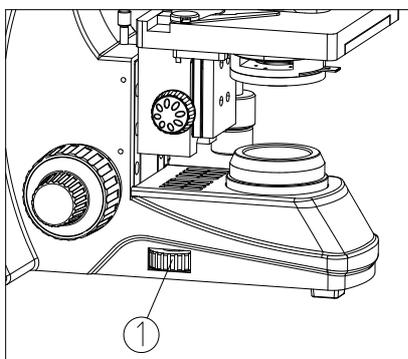

Fig. 7
2. Adjust the light adjustment knob (1) until the illumination is comfortable for observation. Rotate the light adjustment knob clockwise to raise the voltage and brightness. Rotate the light adjustment knob counterclockwise to lower the voltage and brightness (see Fig. 7).